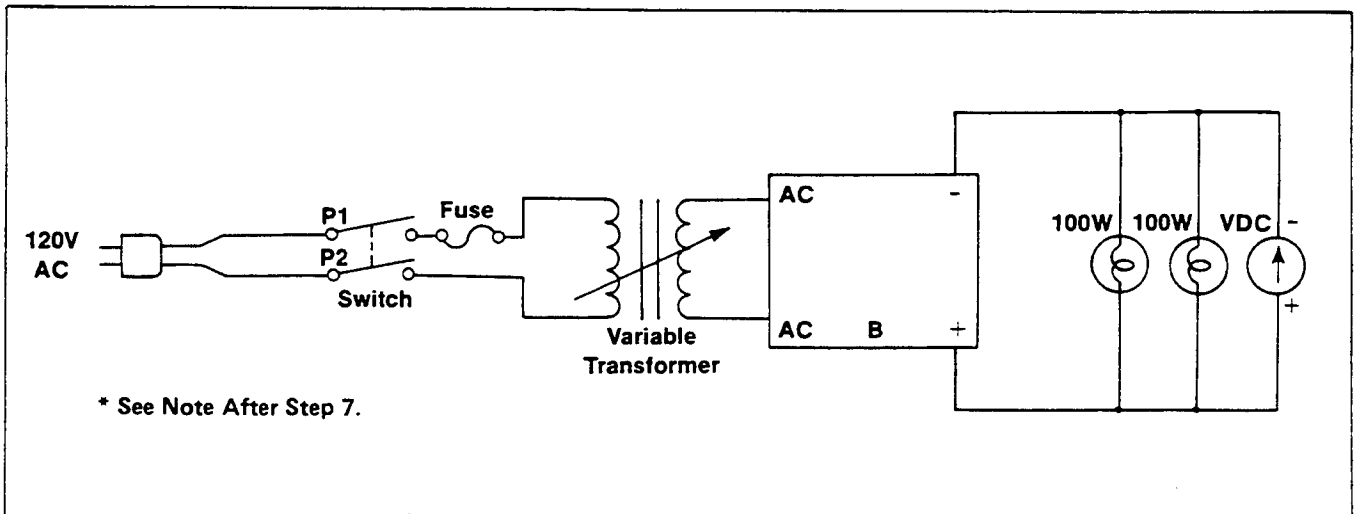
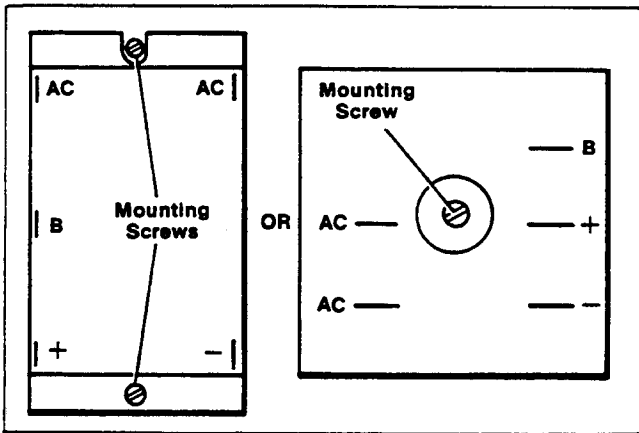

Figure 4-2. Wiring Diagram — Voltage Regulator Field Test (5-Pin)
Figure 4-3. Voltage Regulator Terminal Identification
Figure 4-2 shows the typical voltage regulator terminal identifications.
1. Connect two 100W light bulbs across “+” and “-” terminals of regulator. See Figure 4-2. Terminals are identified in Figure 4-3.
2. Set multimeter range to 100 Volts DC. Connect meter across light bulbs. Check for correct polarity (refer to Figure 4-2).
3. Connect the regulator AC terminals to the output leads of the variable transformer. Connect the switch (DPST) and 2 Amp. fuse to the AC cord as shown in Figure 4-2 (if not included in variable transformer assembly).